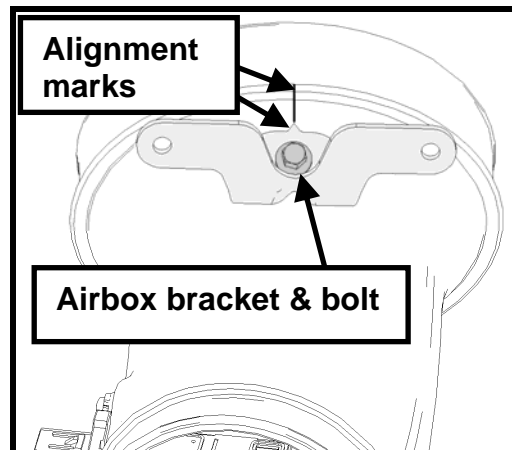

Fig. 29
**STEP 13:** Install the clean air tube support bracket (R07060104) to the clean air tube and position using the alignment marks on both the bracket and the tube. Secure the bracket to the tube using the bolt (N605771) supplied in the kit (See Fig. 29). **NOTE:** Apply medium-strength thread locking compound to the bolt threads prior to installation and torque this bolt to 10 Nm (88 lb in)